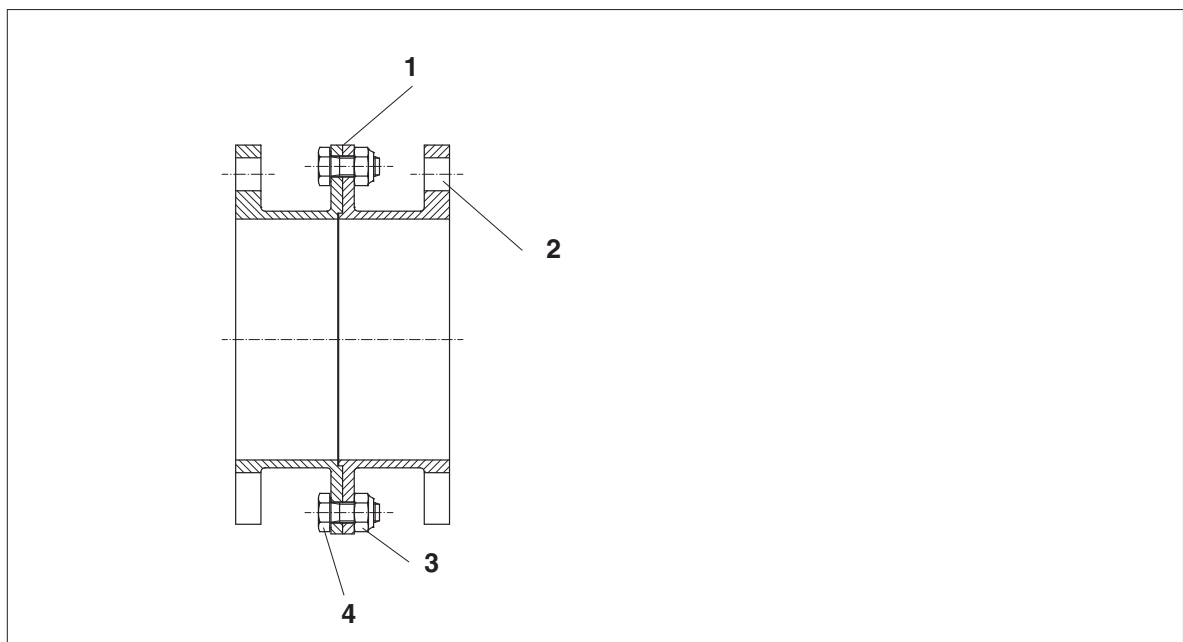
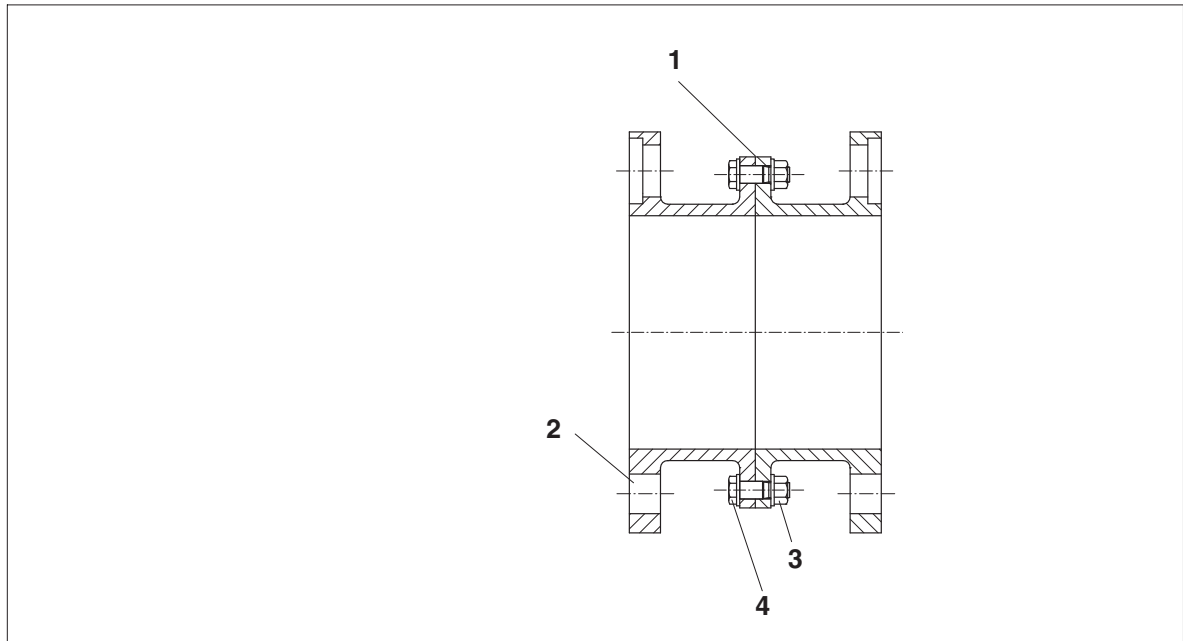

Fig. 15: U-spacer with "recess" (centering pin) (ARS-6)
Fig. 16: U-spacer with close-fitting bolts (**ARC-8**)
- The inner and outer "recess" (centering pin, figure 15) and the fitting bores as well as the contact faces of the individual parts of the split spacer must be inspected for any damage and, if necessary, reworked.
- Before fitting the connecting bolts note any balancing marks (see fig. 15 and fig. 16). If the spacers are unmarked, the halves must be fitted so that the fitting holes of the outer flanges are correctly aligned (see fig. 15 and fig. 16).